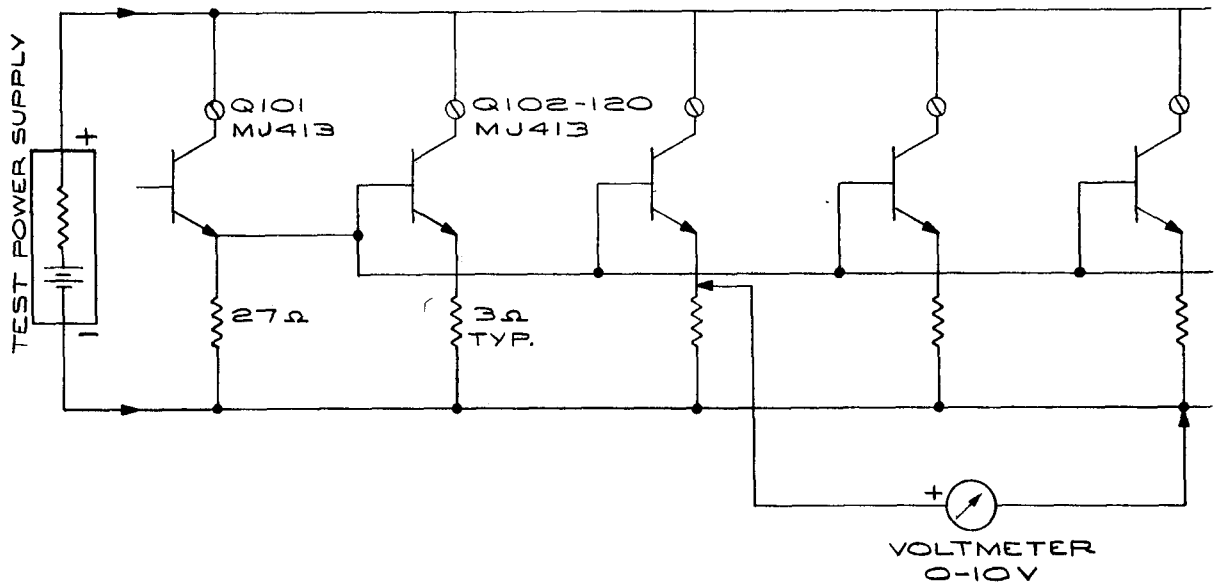

Figure 22; Test Procedure #1
Step 2: Connect equipment as shown in Figure 22. The test power supply must be current limiting or be used with a suitable resistance. Open circuit voltage should be 20-50 volts. Short circuit current should be 1-10 amperes.